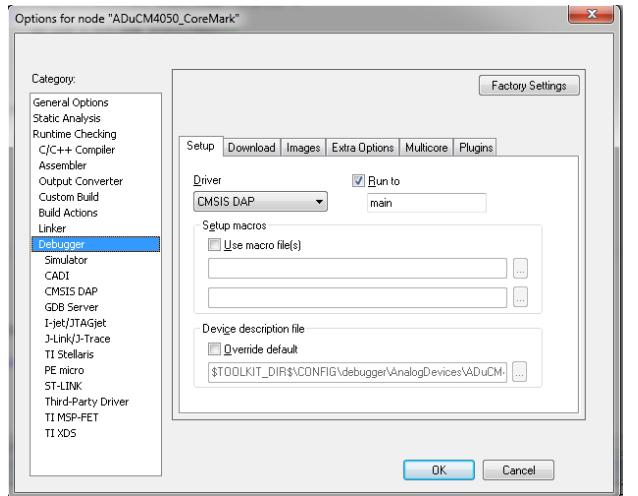
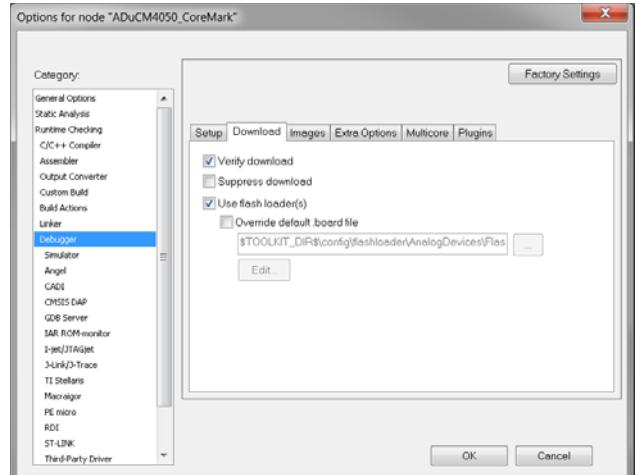

Figure 9. **Debugger**—Setup Configuration
Figure 10. **Debugger**—Download Configuration
5. The debugger used is **CMSIS DAP** (see Figure 9). Verify that both **Verify download** and **Use flash loader(s)** are checked on the **Debugger > Download** menu, as shown in Figure 10.